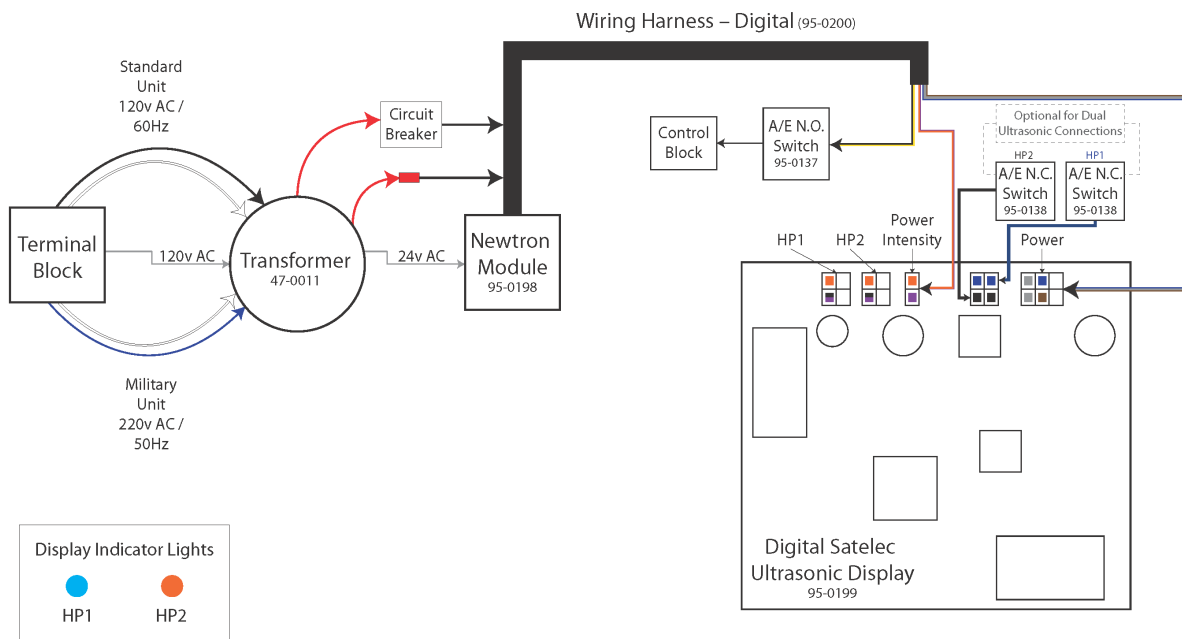

Fig. B4
- B6. Connect Ultrasonic 1 to HP1 position on Digital Display Board (PN 95-0199). **(Fig. B4)** Repeat step for the second handpiece on Dual Ultrasonic systems to HP2 position
- B7. Wire Harness to Digital Display Board (PN 95-0199). **(Fig. B4)**
- B8. Connect Newtron Module (PN 95-0198) to Wire Harness (PN 95-0200). **(Fig. B4)**
- B13. Connect bullet connector, black wire from Wiring Harness to red wire from Transformer (PN 95-0300). (**Fig. B4**)